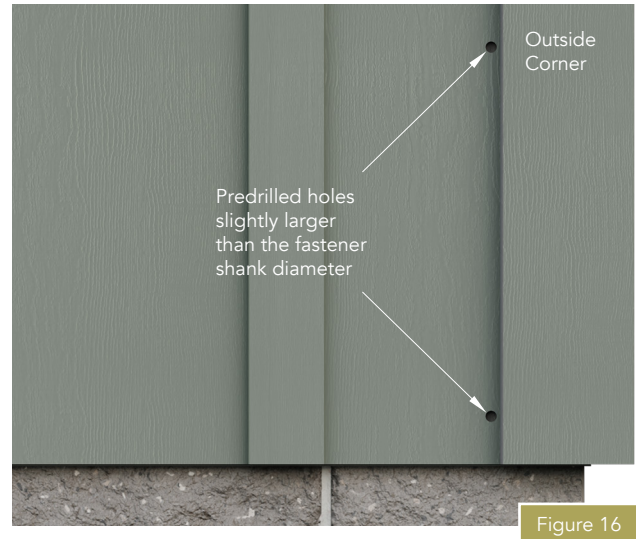

Figure 16
- Pre-drill a hole slightly larger than the shank of the fastener. Fasten every 16"-24" close to the end of the panel to hold in place (Figure 16).